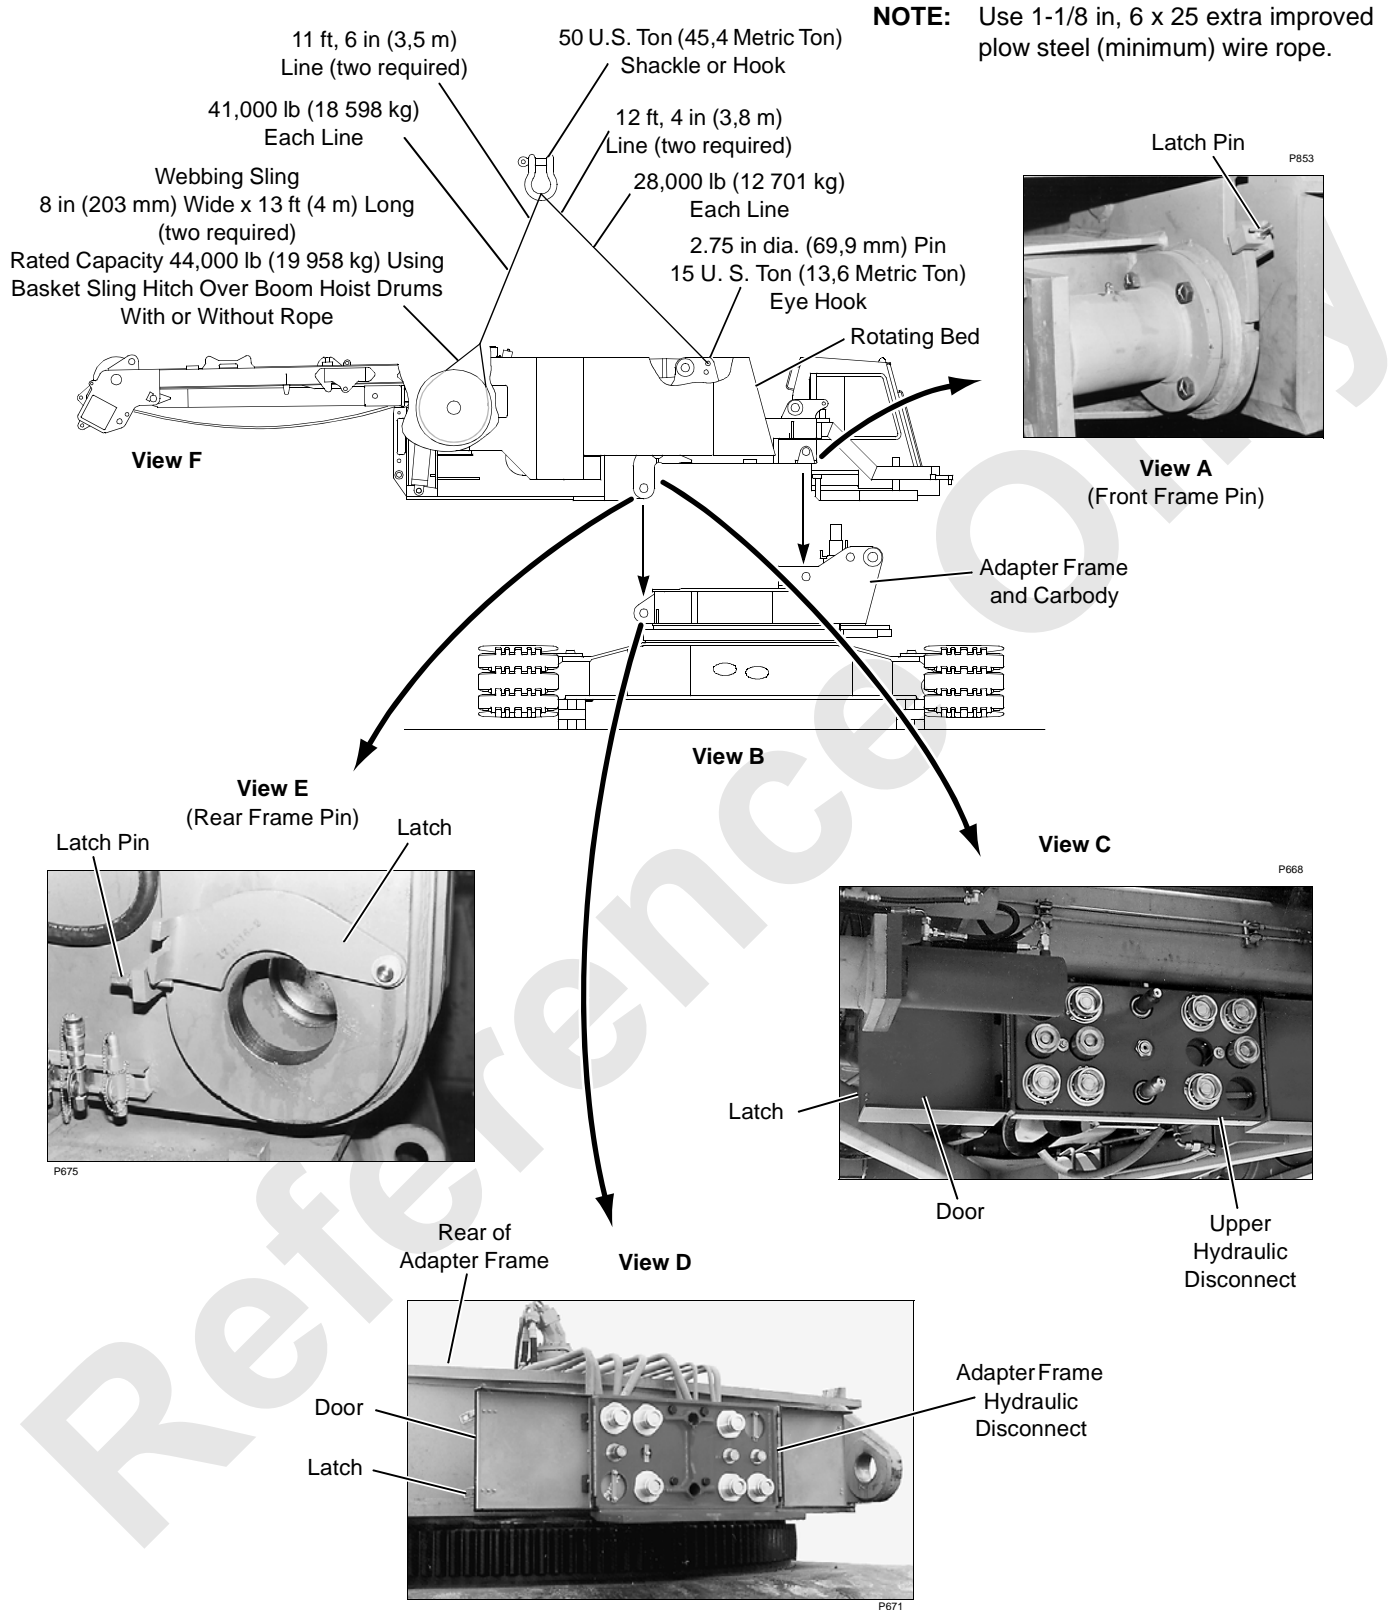

FIGURE 4-11
11. Lift crawler drive shaft off supporting bracket (Figure 4-11, View E), extend shaft, and align holes in drive shaft flange (Figure 4-9, View D).
2. Unlatch and open doors of hydraulic disconnects on adapter frame (Figure 4-11, View D) and on rotating bed (Figure 4-11, View C).
3. Attach assist crane to rotating bed (Figure 4-11, View F).
NOTE: Owner is responsible for complying with minimum rigging specifications shown in Figure 4-11.
4. If equipped, make sure front and rear frame connecting pin latches are held open with latch pins (Figure 4-11, Views A and E).